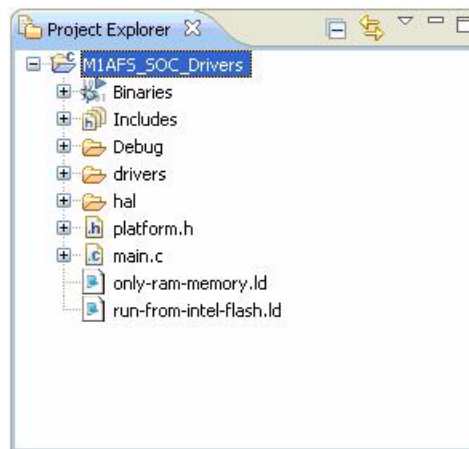

Figure A-3 · Linker Script in Project Explorer View
6. Click **Finish**. The selected linker script will appear in the Project Explorer view (Figure A-3).